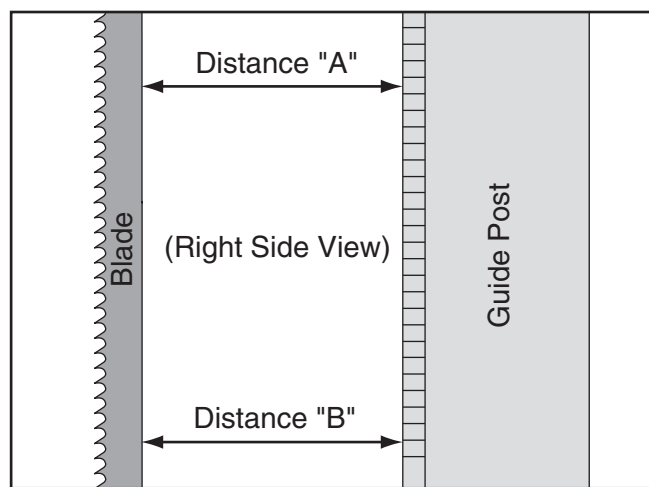

Figure 99. Example of measuring distance between rack and blade at top of guide post.
4. Measure the distance "A" between the upper front face of the guide post rack and the back of the blade (see **Figure 99**).
5. Measure the distance "B" between the bottom front face of the guide post rack and the back of the blade (see **Figure 99**).